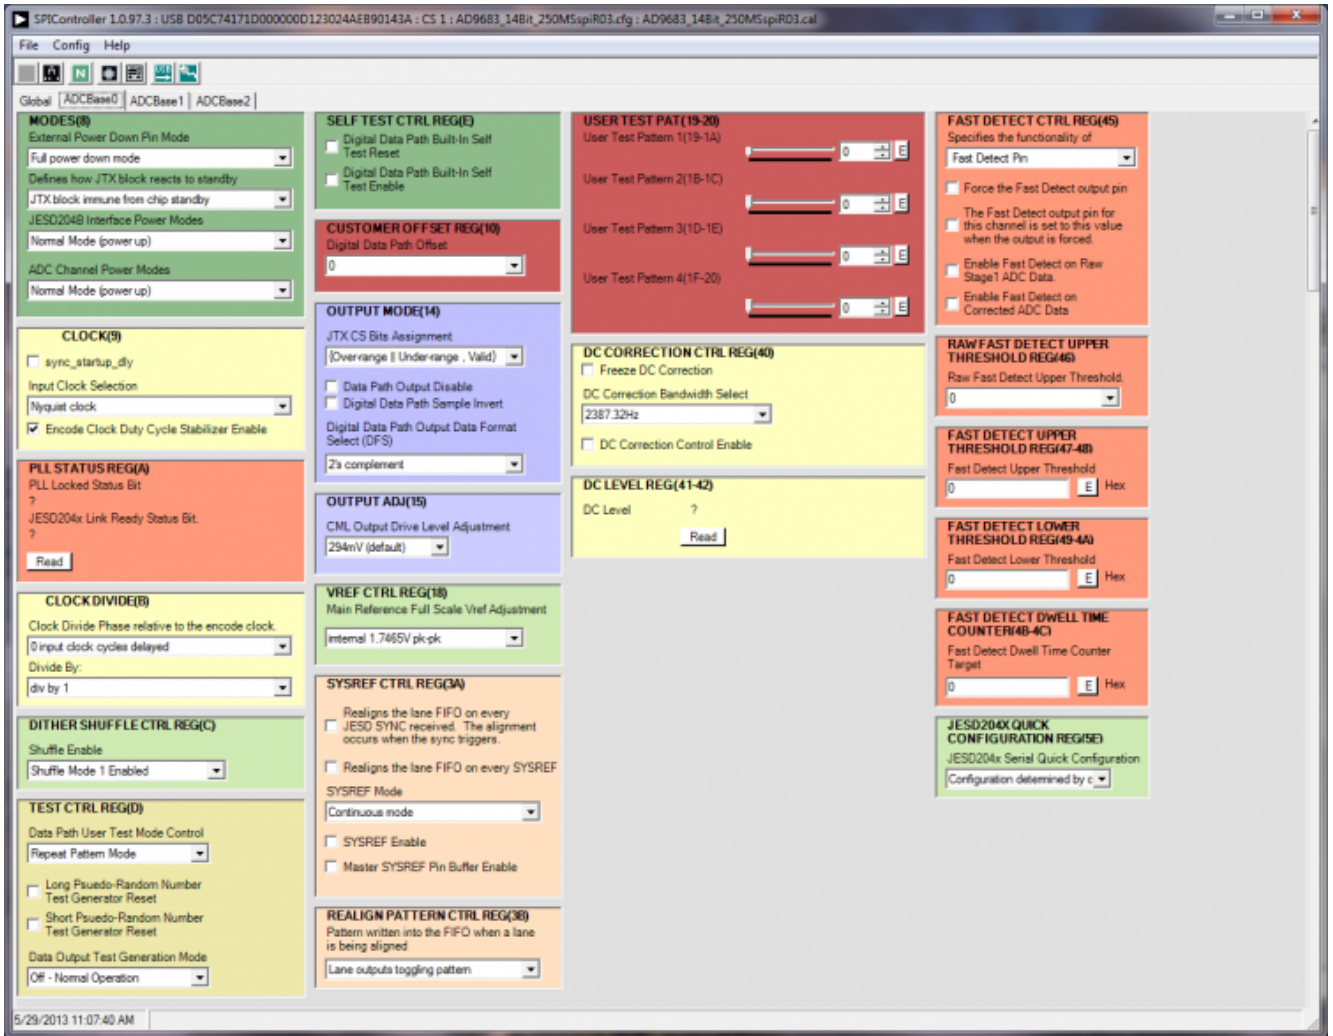
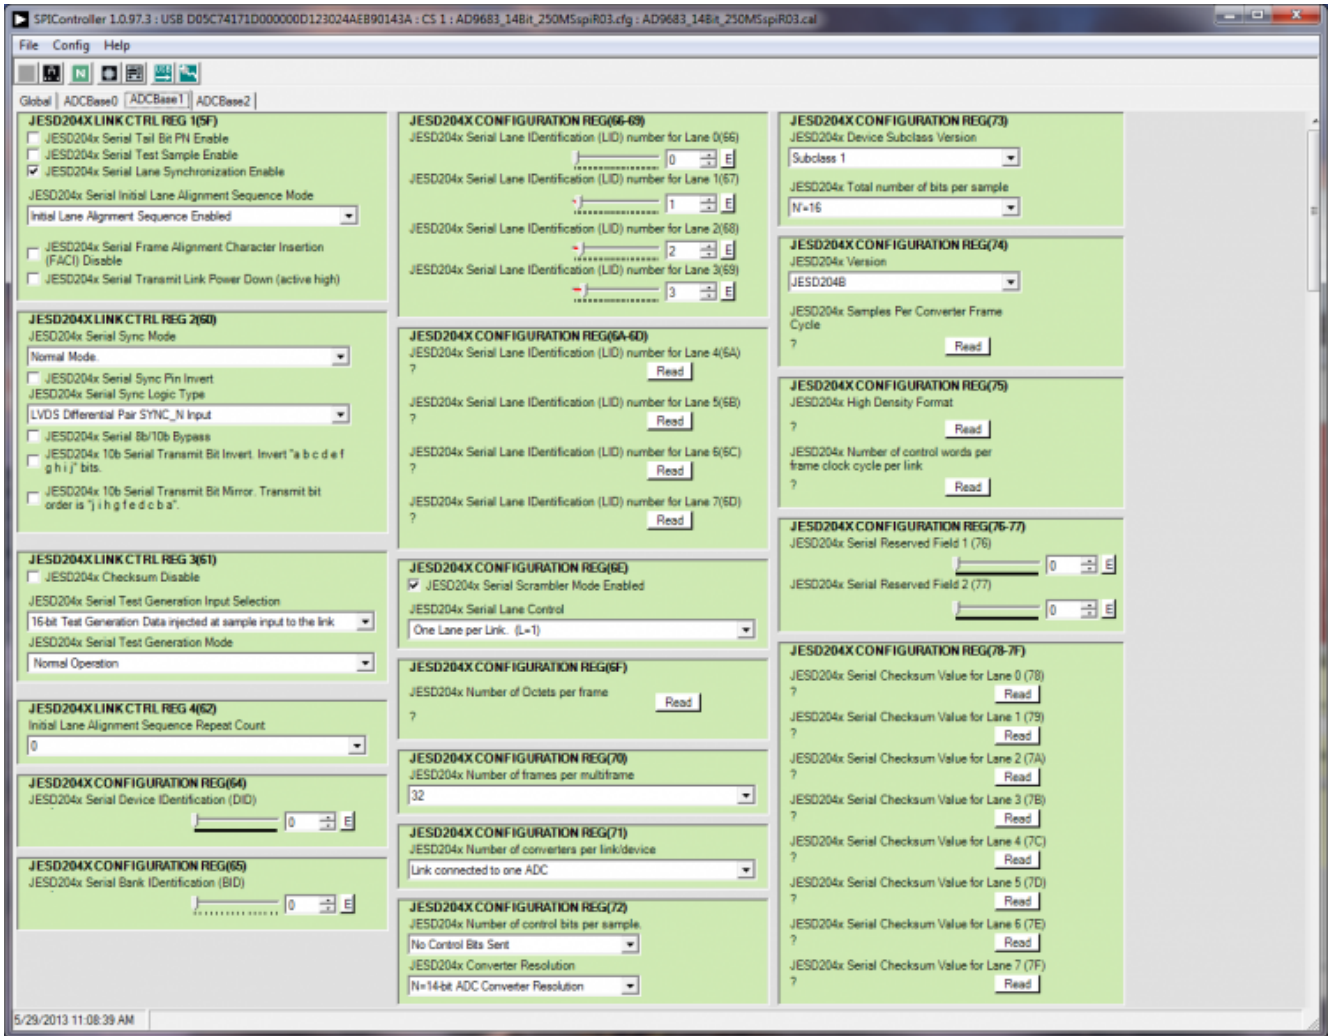

Figure 10. SPI Controller, ADCBase0
Figure 11. SPI Controller, Example ADCBase1 Page
3. In the **ADCBase 0** tab of the **SPIController** window, find the **CLOCK DIVIDE(B)** box (see Figure 10). If using the clock divider, use the drop-down box to select the correct clock divide ratio, if necessary. The Nyquist Clock is selected by default. If using the RF Clock, make sure to configure the device in this tab. For additional information, refer to the data sheet, the AN-878 Application Note, High Speed ADC SPI Control Software, and the AN-877 Application Note, Interfacing to High Speed ADCs via SPI.
- Note that other settings can be changed on the **ADCBase0** tab (see Figure 10) and the **ADCBase1** and **ADCBase2** tabs (see Figures 11 and 12) to set up the part in the desired mode. The **ADCBase0** tab settings affect ADC settings, whereas the settings on the **ADCBase1** and **ADCBase2** tabs affect the JESD204B link settings. See the appropriate part data sheet, the AN-878 Application Note, High Speed ADC SPI Control Software, and the AN-877 Application Note, Interfacing to High Speed ADCs via SPI, for additional information on the available settings.
If the FFT window remains blank after **Run** in VisualAnalog (see Figure 11) is clicked, do the following: